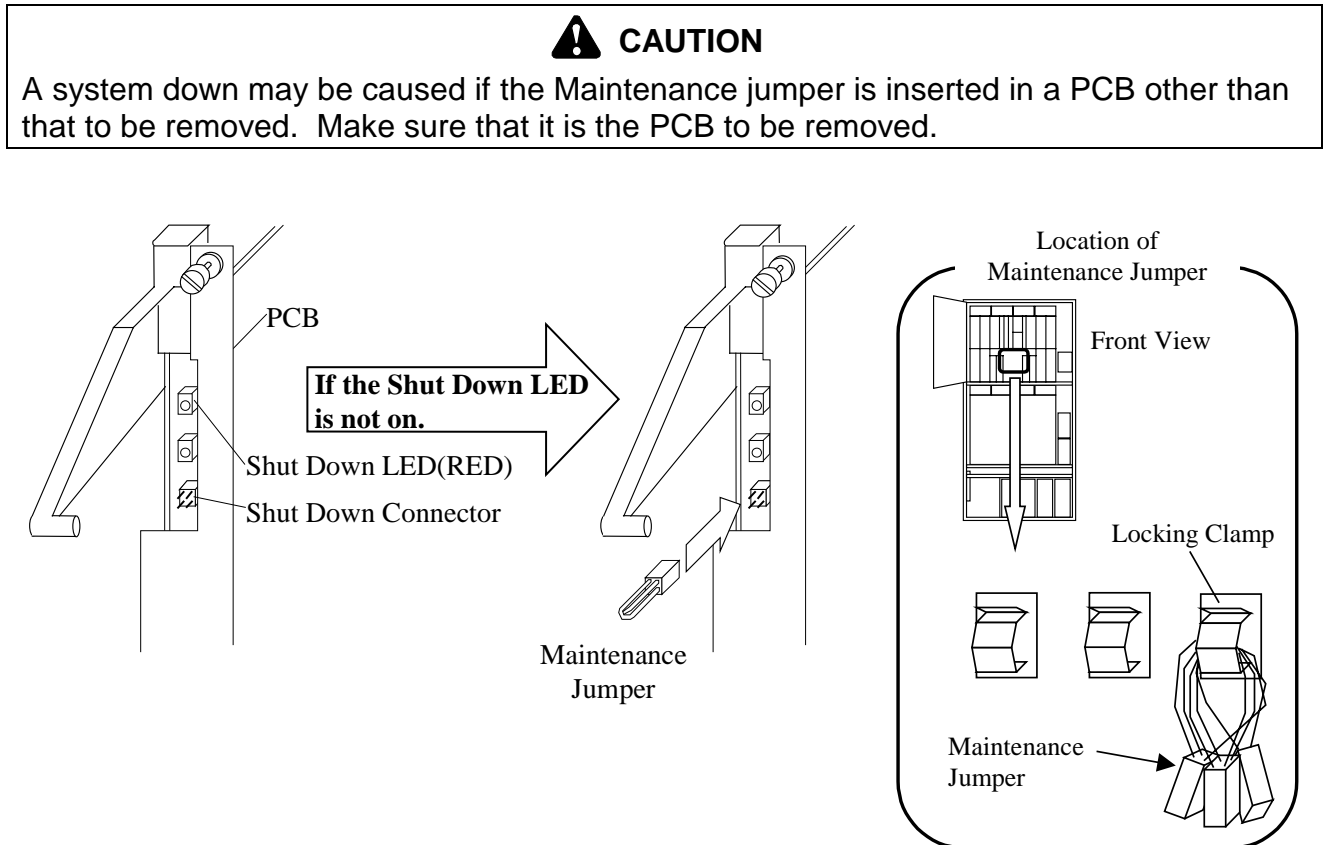

Fig. 4.3.4-1 Shut Down LED
- a. Confirm that Shut Down LED is on (Fig. 4.3.4-1). If the LED is not on, connect the Maintenance Jumper to the Shut Down Connector.
- Remove the bracket and cable clamp referring to Fig 4.3.4-2.
- Disconnect the optical fibre cables referring to Fig 4.3.4-3.